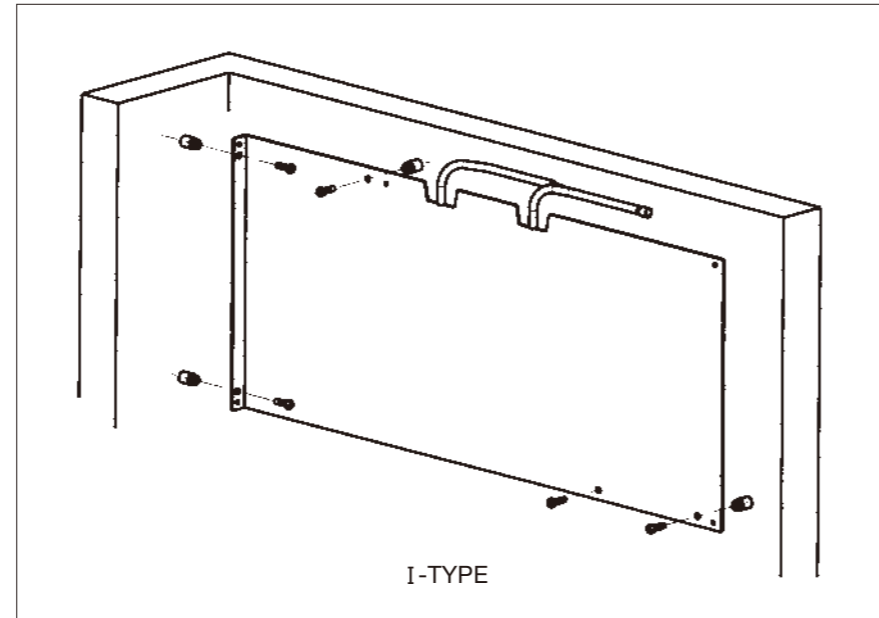

Fig. 6
- The compressor/condenser case can be easily mounted to the floor mounting brackets and by use of screws or bolts, (Fig 6) Place unit to insure accessibility and good circulation (see paragraph on location).